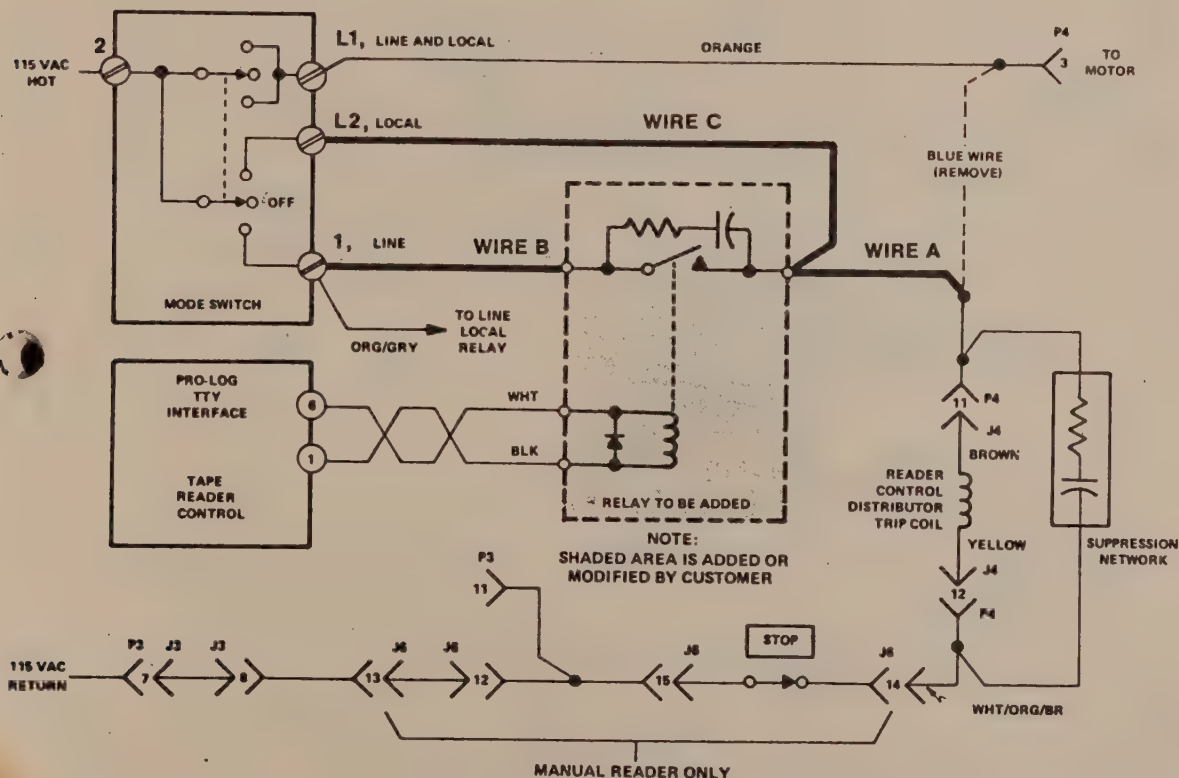

Figure 10-11 TTY Modification (Manual Reader)
The manual reader circuit can be controlled remotely by adding a relay to control the reader trip coil in the LINE mode. Modifying the reader circuit as shown in Figure 10-11 allows normal operation in the LOCAL mode and remote control in the LINE mode.
1. If the wire colors do not agree, do not proceed with this modification unless the connections can be verified to agree with those of Figure 10-11.